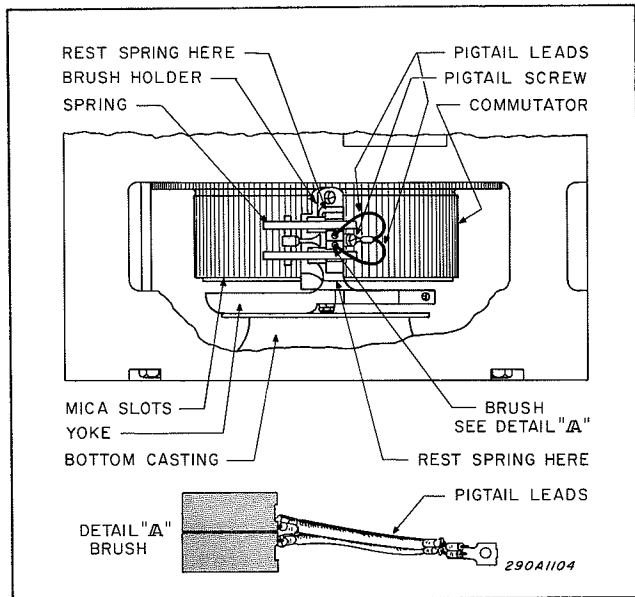

Figure 5-1. Single Phase Motor Brush Replacement.
B. Motor Brush Replacement (All Single Phase (B) models except Model 2).
3. See figure 5-1 while performing steps 3 through 10 of this procedure. Remove the pigtail screw from the brush holder, and lift the pigtail leads away from the holder.
4. Carefully lift the springs away from the two-segment brush and allow each spring to rest on the brush holder next to the brushes, as indicated in figure 5-1.
8. Install the replacement brushes in the brush holder making sure that the pigtail leads are next to each other as shown in detail "A" of figure 5-1.